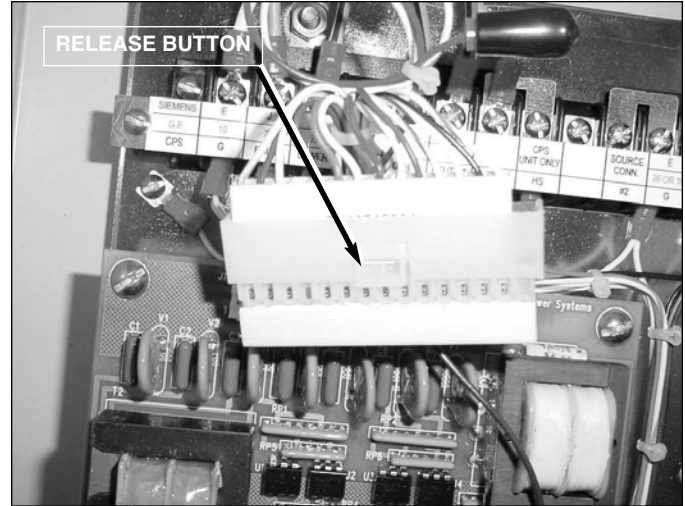

Figure 8.
10. If the kit adapter needs to be removed from the harness connector so that the DDR can be use with controls starting with the CL5 series and earlier, press and hold down the release button on the kit adapter connector and pull the two connectors apart (See Figure 8). The white DDR connector can be reconnected to the DDR board. This is only to be done if the CL6 is removed and an earlier version control is to be used on the CRA.